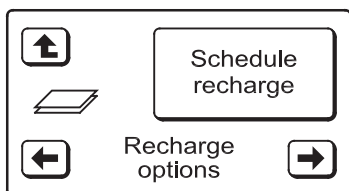

FIG. 39
5. Press the button next to ON, then press the RETURN (⬆) button. The display will go back to the screen shown in Figure 39.